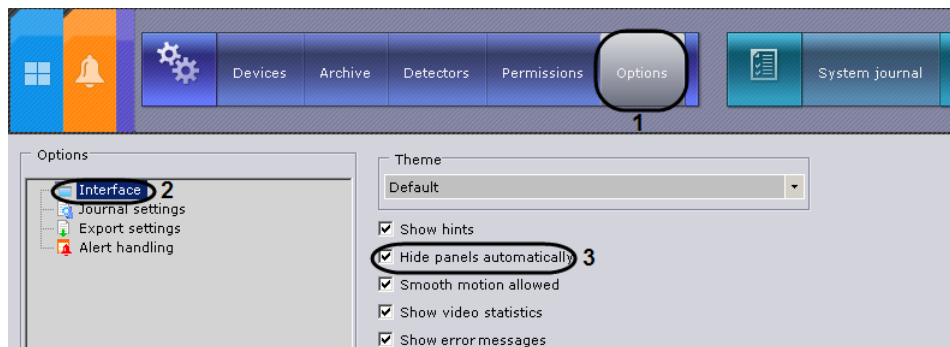

Fig. 6.8—4 Configuring autohide for panels
1. Go to **System settings**⇒**Options**⇒**Interface** (Fig. 6.8—4, 1-2).
2. Deselect the **Hide panels automatically** checkbox (see Fig. 6.8—4, 3).